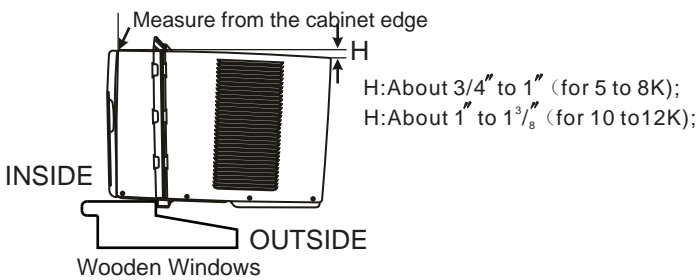
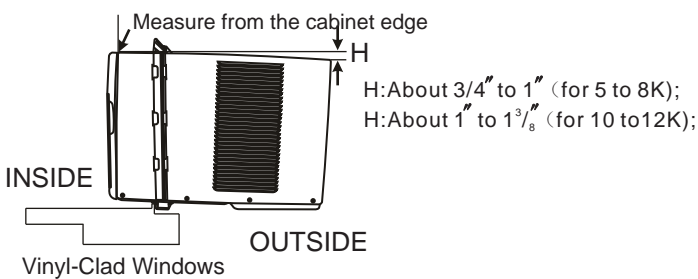

Fig.5A
Fig.5B
A. With the help of another person, carefully place the unit into the window so that the bottom of the air conditioner frame is against the window sill (Fig.5A for wood frame windows and Fig.5B for vinyl windows). Carefully close the window into the top rail on the unit.